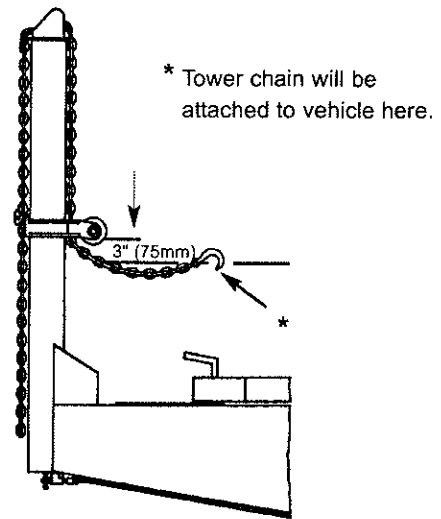

Figure 11
- Support collar with one hand while loosening collar locking knob with opposite hand. Then position collar approximately 3 inches (75 mm) above desired pulling height and retighten collar locking knob. (See Figure 11.)